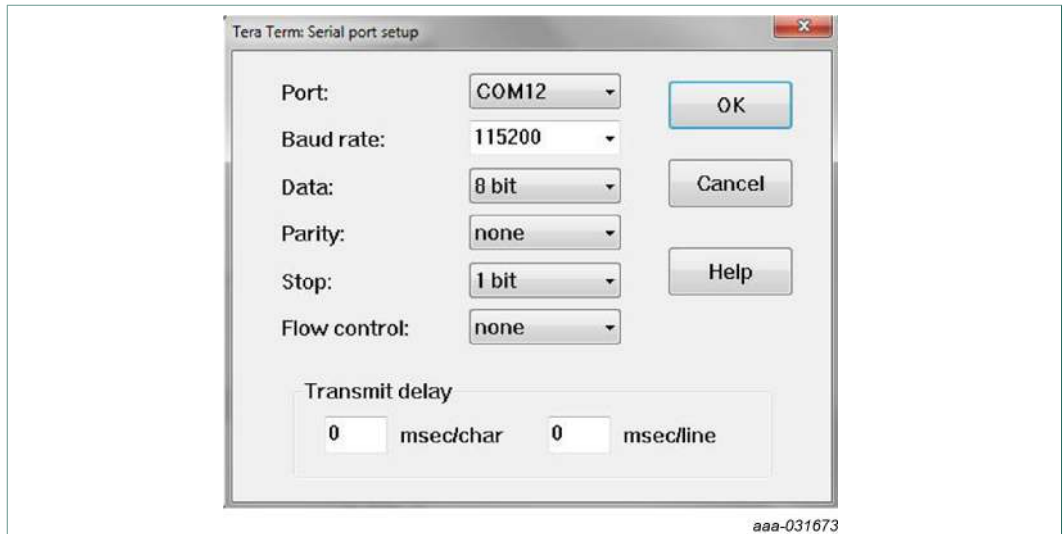

Figure 3. Serial port settings in terminal program
- Go to Setup > Serial port and set the values as indicated in Figure 3.